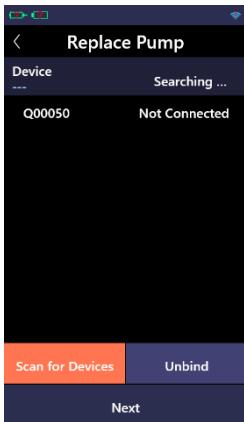

Figure 11.4
**(4)** Connect, Click "Scan for Devices", the Bluetooth will automatically start to search for available devices, and a list of devices will be displayed (as shown in Figure 11.4).